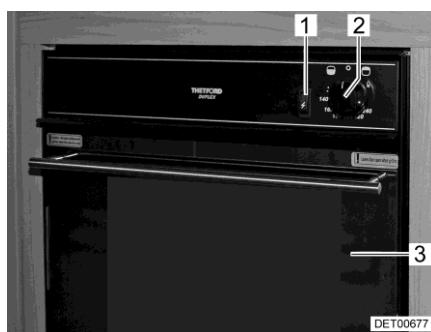
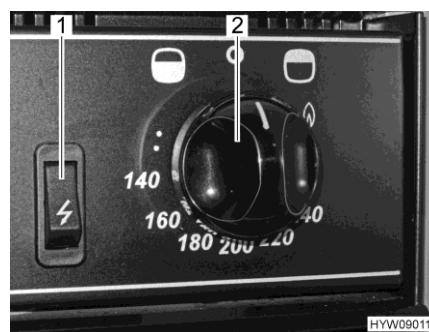

Fig. 123 Gas oven with grill
Fig. 124 Operating controls (gas oven with grill)
- Fully open the oven flap (Fig. 123,3).
- Press the control knob (Fig. 123,2 and Fig. 124,2) and set it to the maximum setting anticlockwise (towards the oven symbol "🔥").
- Press the control knob (Fig. 123,2 and Fig. 124,2) and hold it down for 5 to 10 seconds. Gas will stream into the burner.
- Keep the ignition switch (Fig. 123,1 and Fig. 124,1) pressed until the flame burns.
- Press the control knob (Fig. 123,2 and Fig. 124,2) and turn it clockwise (towards the grill symbol "☐") in the direction of the flame symbol.
- Turn the control knob (Fig. 123,2 and Fig. 124,2) to "O". The flame fades.